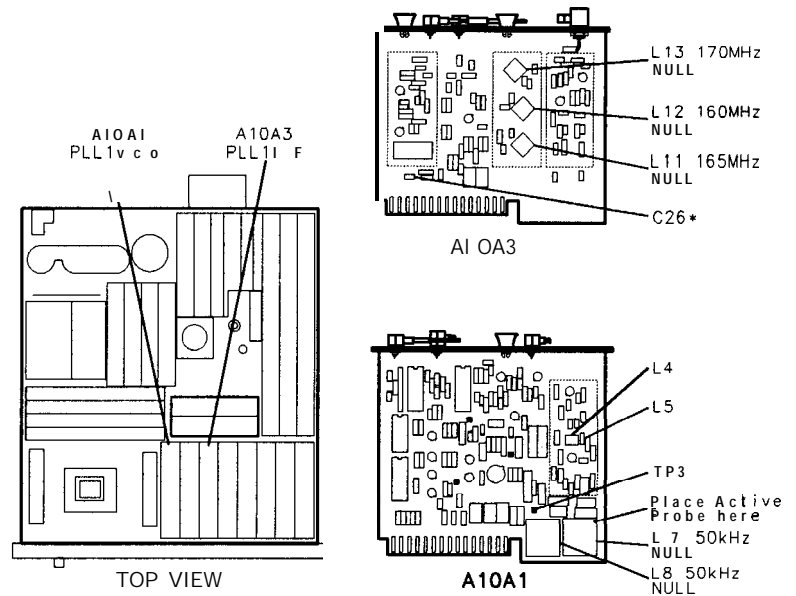

Figure 3-78. Location of PLL1 Adjustments
8. Connect the active probe tip to the lead of A10A1L7 closest to A10A1C22, as indicated in Figure 3-78. The 20 kHz signal (from the 40 kHz LPF) should be visible on the display of the second spectrum analyzer.
11. Adjust A10A1L7 and A10A1L8 50 kHz NULL adjustments to minimize the amplitude of the 50 kHz signal displayed on the second spectrum analyzer. Refer to Figure 3-78 for the location of A10A1L7 and A10A1L8 50 kHz NULL adjustments.
34. Adjust A10A3L13 170 MHz NULL to minimize the amplitude of the 170 MHz signal displayed on the second spectrum analyzer. Refer to Figure 3-78 for the location of A10A3L3 170 MHz NULL adjustment.
36. Adjust A10A3L11 165 MHz NULL to minimize the amplitude of the 165 MHz signal displayed on the second spectrum analyzer. Refer to Figure 3-78 for the location of A10A3L11 165 MHz NULL adjustment.
38. Adjust A10A3L12 160 MHz NULL to minimize the amplitude of the 160 MHz signal displayed on the second spectrum analyzer. Refer to Figure 3-78 for the location of A10A3L12 160 MHz NULL adjustment.
- If it is not, a lower value can be selected for factory-select component A10A3C26 to improve the impedance match between the double-balanced mixer A10A3U1 and the IF Input Amplifier circuit on A10A3 PLL1 IF Assembly. Refer to Table 3-3 for the acceptable range of values for A10A3C26, and to Table 3-4 for HP part numbers; refer to Figure 3-78 for the location of A10A3C26.
If it is not, slightly readjust A10A3L11 165 MHz NULL to increase the amplitude of the 140 MHz signal displayed on the second spectrum analyzer to -14 dBm. Refer to Figure 3-78 for the location of A10A3L11 165 MHz NULL adjustment.